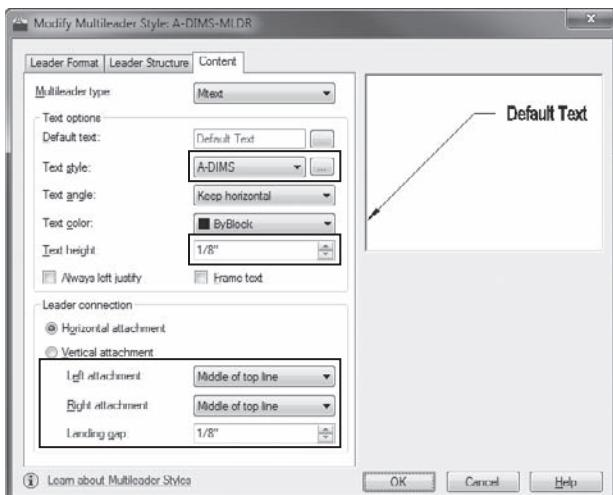

FIGURE 12.46 The Content tab within the Modify Multileader Style dialog box
7. Switch to the Content tab shown in Figure 12.46. Expand the Text Style drop-down list, choose A-DIMS, and set the text height to $1/8"$ (3.5).
8. In the Leader Connection area, set both the Left Attachment and Right Attachment options to Middle of Top Line, as shown in Figure 12.46.
9. Set the Landing Gap value to $1/8"$ (3.5), as shown in Figure 12.46.